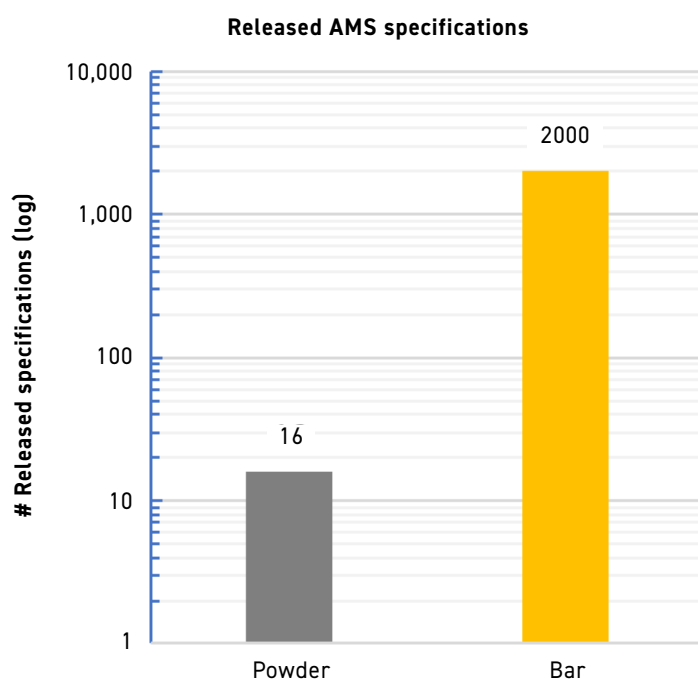

Fig. 10 Estimate of released specifications for metal powders and barstock [4]
about sixteen released metal powder specifications (Fig. 10).
- From an accounting perspective, less inventory of powder is held and, as Fig. 10 shows, barstock carries less value than powder. Technically, manufacturers will not have to be as concerned with storing massive quantities of powder, keeping it dry, etc